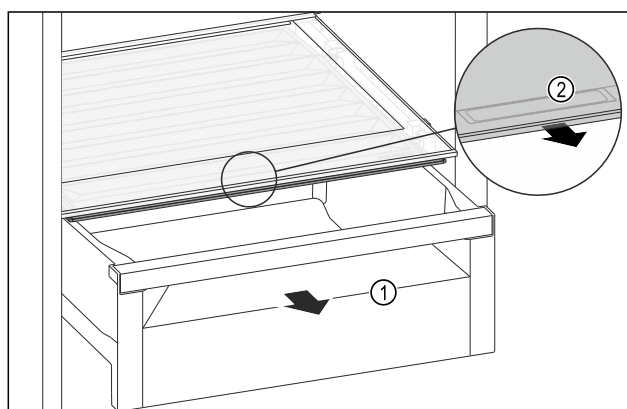

Fig. 161
- Pull out the drawer Fig. 161 (1).
- Grip the handle recess Fig. 161 (2) on the lid while pulling the lid forward at the same time.